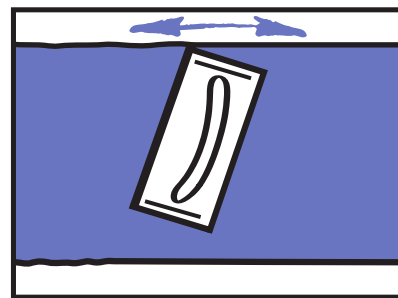

FIGURE 9 Sanding
- Lightly sand to a smooth even surface using 180 to 220 grit sand paper or sanding mesh. [Figure 9]